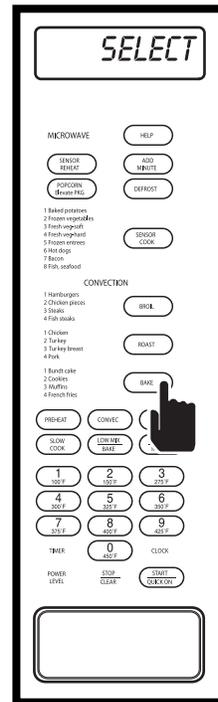

Figure 3-103.
1. Press the BAKE key, “SELECT - FOOD - NUMBER” will flash on display (See Figure 3-103).